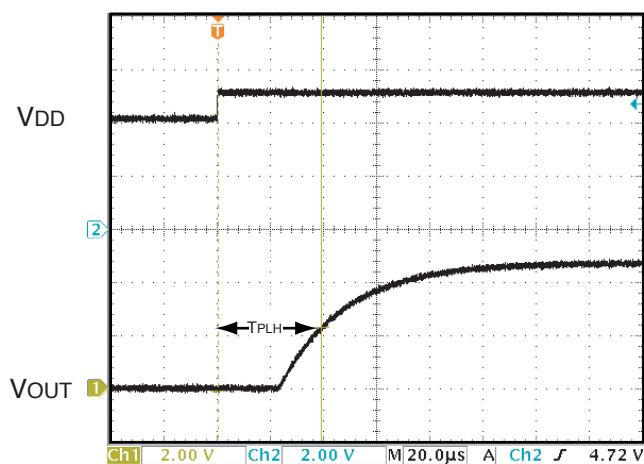

Fig.15
- ① If the VDD is equal to or lower than the operating limit voltage (VOPL) at power-up, the output is inconsistent.
- ② When the VDD is equal to or lower than the reset release voltage ($V_S + \Delta V_S$), VOUT=L.
- ③ When VDD exceeds the Reset Release Voltage, VOUT turns H with a delay of TPLH. See Fig. 15 and 17 for the reference waveform.
- ④ If the VDD goes below the detection (V_S) at power-down or instantaneous power failure, VOUT turns L with a delay of TPHL.